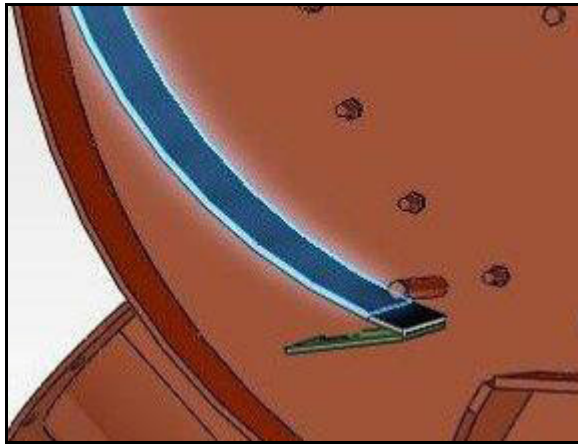

Figure 6.20 Wear Wrap - Hooked End
9. Continue to feed the wear wrap out through the exhaust until you are able to get the hooked end to the outside of the third spacer pipe (see Figure 6.20).